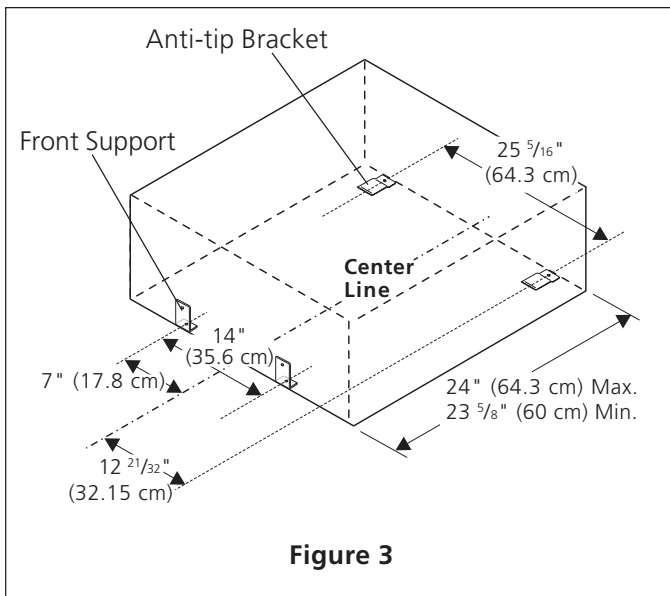

Figure 3
1. Locate the 2 anti-tip brackets and the 2 front supports supplied as shown on figure 3. Fix them using the 4 black head screws (10-16 X 1¼") supplied